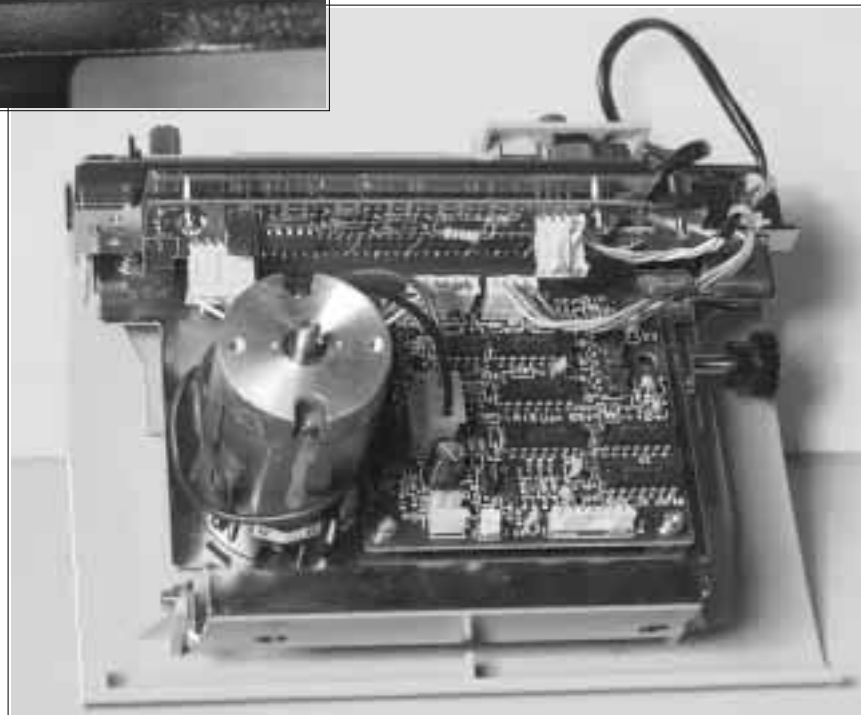

Fig. 4-28
1.	Turn off the printer and remove the cutter, but do disconnect the electrical connection. Fig. 4-28
2.	Align the potentiometer VR1 on the Cutter sensor PCB (Lower) to the center position. Fig. 4-28
7.	Connect (+) probe for the measurement to check pin RF on the Cut Sensor PCB (lower) and adjust the threshold level with the potentiometer VR2 on the PCB. Fig. 4-28 Threshold level: ((High) + (Low)) / 2